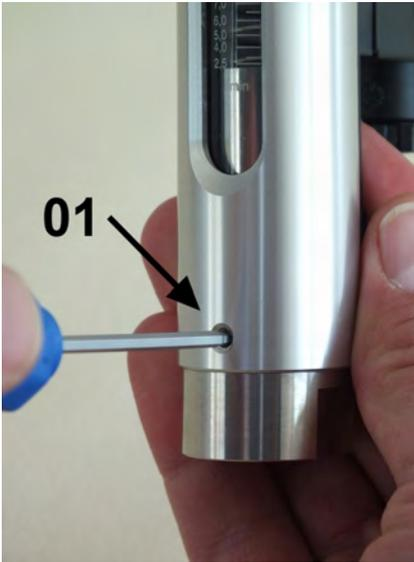

Fig. 37: Loosen screws
- 3.** → Secure the device with one hand to ensure the sight glass does not slip out. With the other hand, loosen the lower 3 hex head screws (Fig. 37/01).